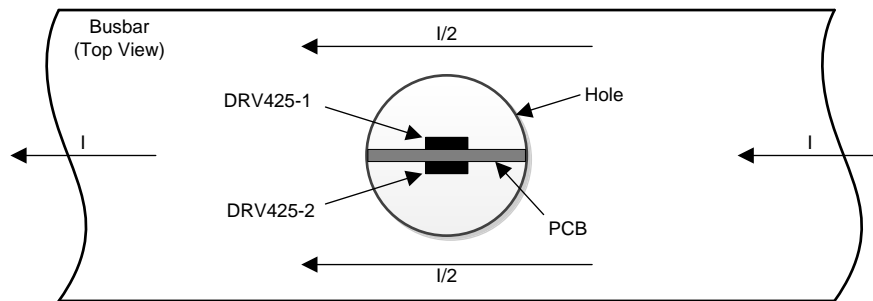
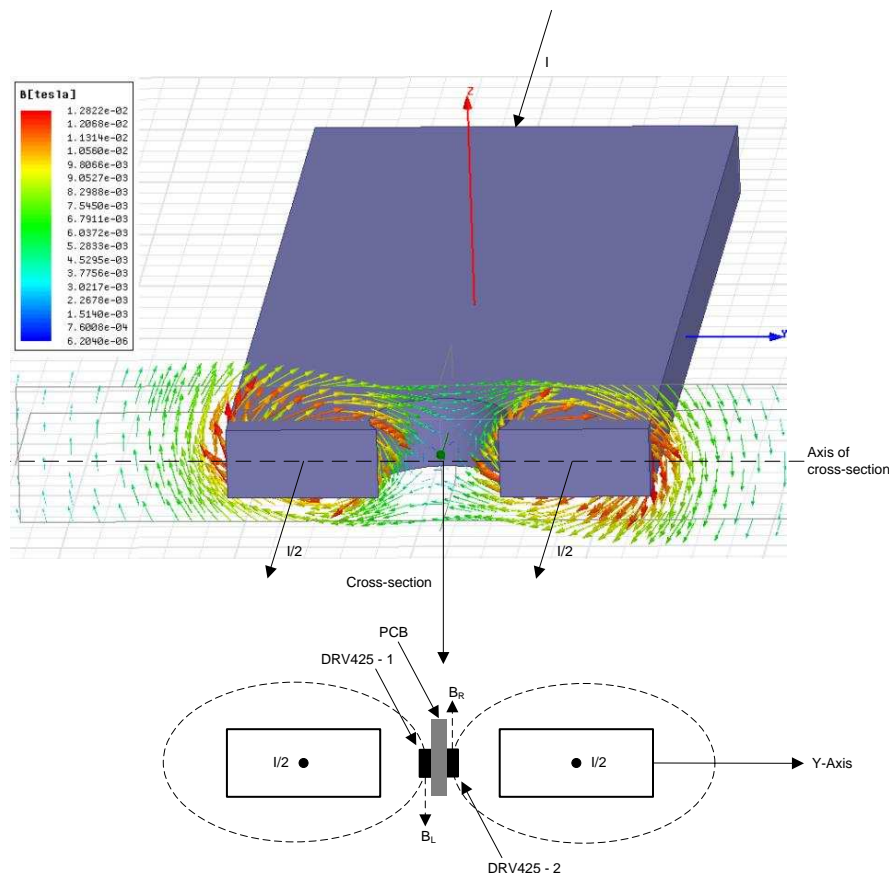

图 71. DRV425-Based Busbar Current Sensing
图 72. Magnetic Field Distribution Inside a Busbar Hole
图 71 shows an alternative approach with two DRV425 devices. If a hole is drilled in the middle of the busbar, the current is split in two equal parts that generate magnetic field gradients with opposite directions inside the hole. These magnetic fields are termed  $B_R$  and  $B_L$  in 图 72. The opposite fields cancel each other out in the middle of the hole. The high sensitivity and linearity of two DRV425 devices positioned at the same distance from the middle of the hole allow the small opposite fields to be sensed and the current measured with high-accuracy levels. The differential measurement rejects outside fields that generate a common-mode error that is subtracted at the output.
2. Apply current through the busbar and move the PCB along the y-axis in the busbar hole, as shown in 图 72. The PCB is in the center of the hole if  $V_{CM} = V_{OFFSET}$ .